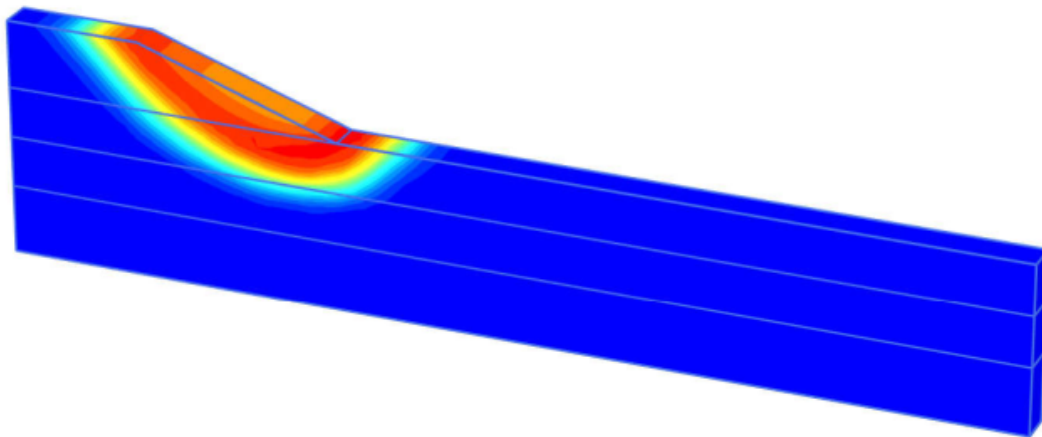

Figure 109: Shadings of the total displacement increments indicating the most applicable failure mechanism of the embankment in the final stage
3.  Change the presentation from **Arrows** to **Shadings**. The resulting plots give a good impression of the failure mechanisms (see Figure 109 (on page 133)). The magnitude of the displacement increments is not relevant.